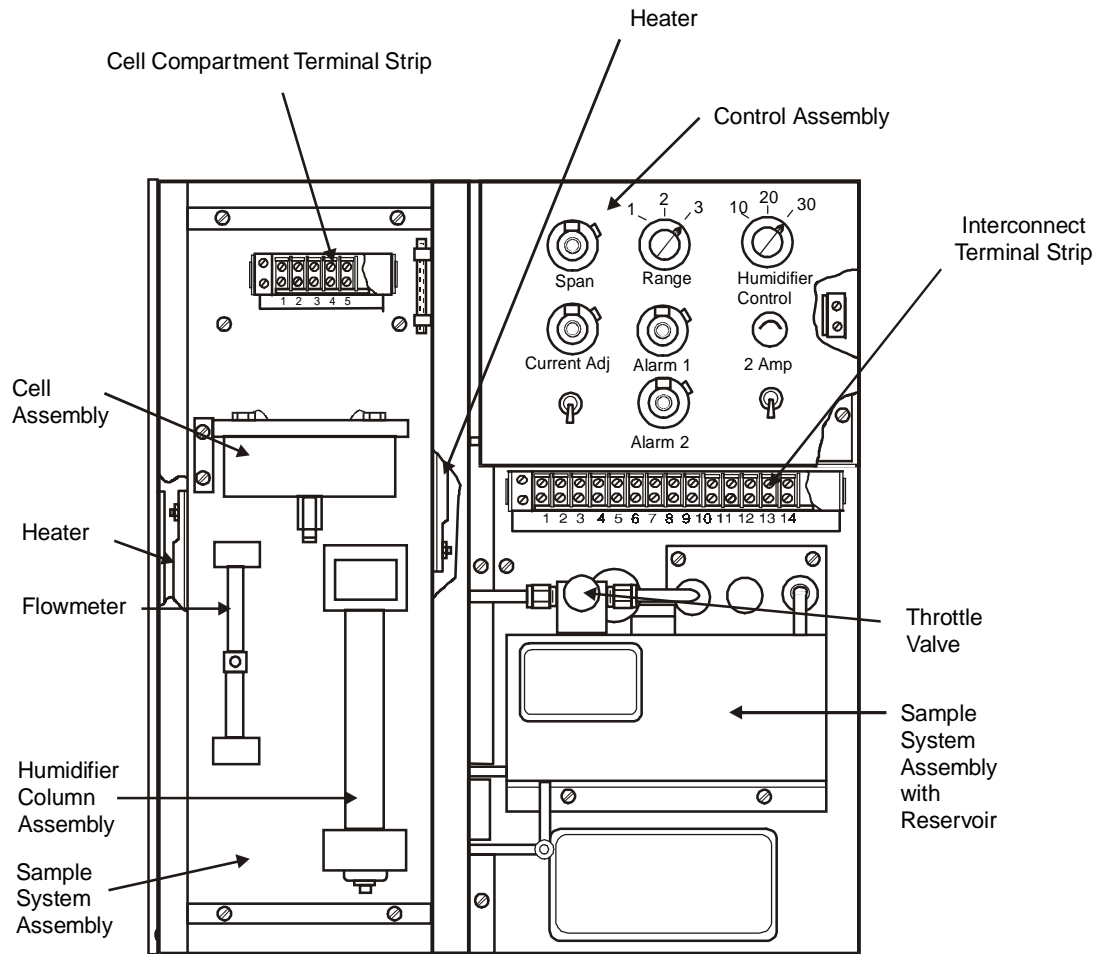

Figure 4-1: Typical Model 306WA With 2 Alarm Option
The cell is located in the heated compartment on the left side of the analyzer case, as shown in Figure 4-1. To open the compartment, unscrew the captive knurled knobs at the top and bottom of the compartment and remove the plastic window.
The throttle valve is located at the top of the reservoir tank. Refer to Figure 4-1.
- b) Refer to Figure 4-1. Place a small funnel with attached tubing beneath the drain spout which is located on the underside of the reservoir. Remove the drain spout cap and allow the reservoir and humidifier column to drain thoroughly.